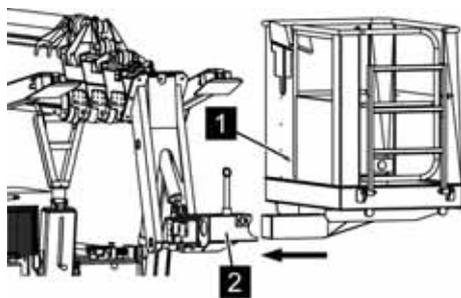

Fig. 86: Inserting the working basket
7. ➤ Push the working basket (Fig. 86/1) in up to the stop and push it into the bracket (Fig. 86/2).